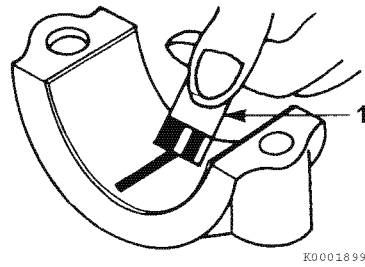

Figure 6-45
- 6- Compare the width of the flattened PLASTIGAGE to the graduation marks on the package (1, **Figure 6-45**). The mark that most closely matches the width of the flattened PLASTIGAGE will indicate the bearing oil clearance. See *Crankshaft, Balancer Shaft, Piston and Connecting Rod* on page 6-7 for the wear limit.